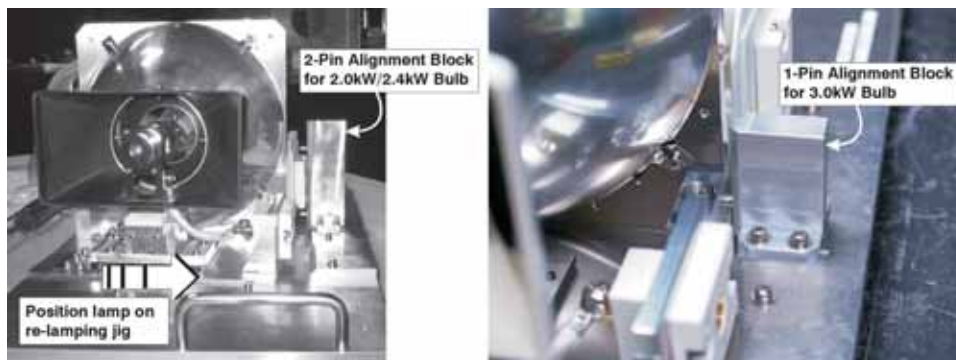

Figure 6 - Lamp Aligns with Jig
9. Slide the lamp house along the base of the alignment jig until it connects with the dowel pins (Figure 6 - Lamp Aligns with Jig6).
NOTE: The alignment jig used to replace a 2.0kW or a 2.4 kW bulb, has two dowel pins alignment block (Figure 6 - Lamp Aligns with Jig6-Left). When replacing a 3.0kW bulb, the alignment block has only one dowel pin (Figure 6 - Lamp Aligns with Jig6-Right). To simplify the procedure where the Alignment Jig will be used for all three bulb types, you should replace the 2-pin alignment block with the 1-pin alignment block. The new 1-pin alignment block (p/n 011-101190-01) can be used for the replacement of all three bulb types.